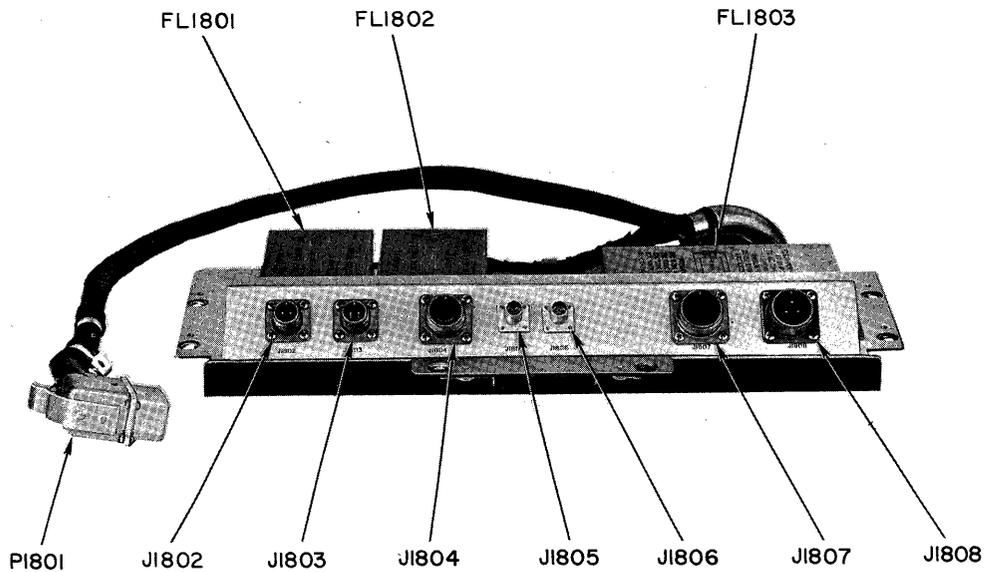

Figure 5-78. Demodulator Blister, Location of Parts
b. ACCESS.—The demodulator blister is at the rear of the demodulator cabinet. For access, simply open the demodulator drawer. This will not break connections. Figure 5-78 shows the location of parts.
- (1) Connector P1801 (should be secure to J651 on the chassis)
- (2) Outside connectors.